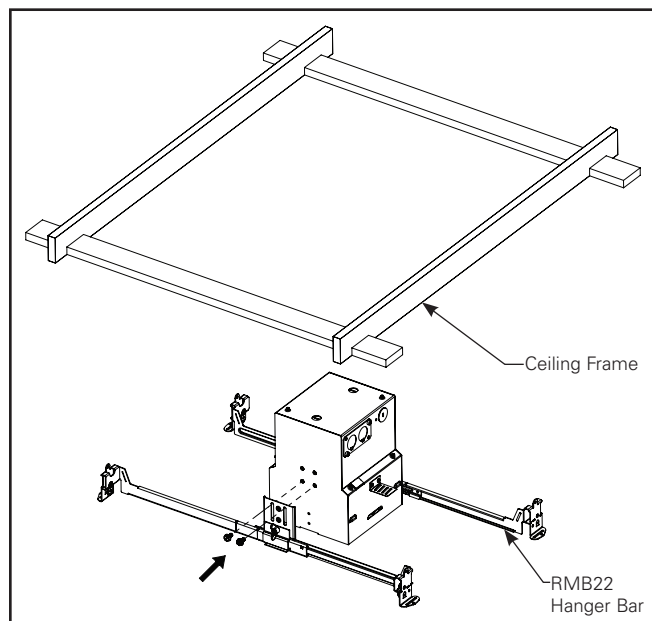

Figure 1.2.
2. Install rough-in section to ceiling framing or ceiling structure using mounting brackets on side of housing (Figure 1.2). Bars are ordered separately. Cooper Lighting accessory bars are available: